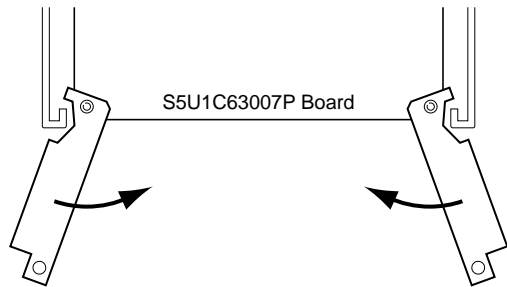

Fig. 2.1.2
- (3) Once the S5U1C63007P board has been inserted almost fully into the ICE, secure it in position by using the jig supplied with the ICE (see Figure 2.1.2).
- (4) When the above is done, replace the front panel.